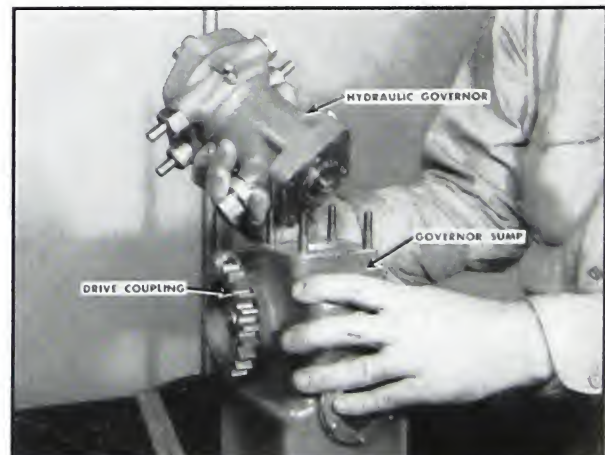

Fig. 5-373. Remove governor
3. Loosen the four governor to drive assembly stud nuts and lift the governor from its mounting. Fig. 5-373.